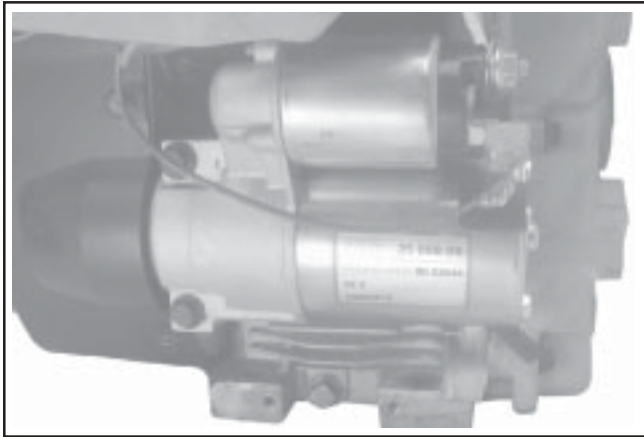

Figure 11-74. Connecting Leads to Starting Motor.
3. On models with a solenoid shift starter, connect the leads to the solenoid. See Figure 11-74.